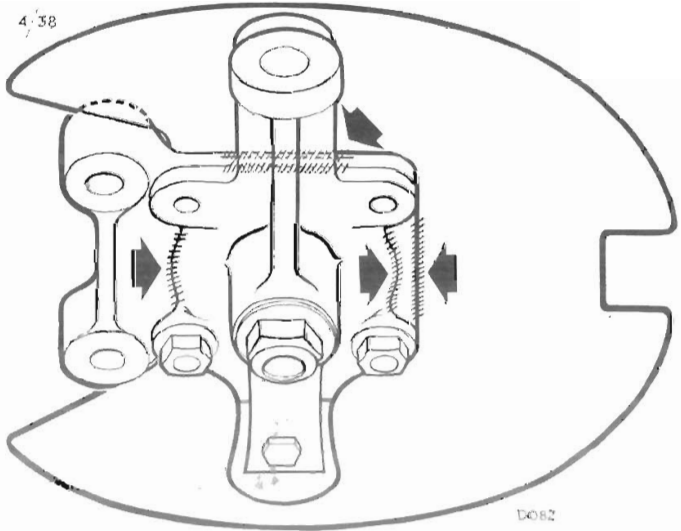

Fig. 21. Positions of Expandite Seal-a-Strip between disc brake caliper bracket and vertical link
8. Assemble the ball joint tapered shank to the vertical link (18) and fit the nyloc nut (22) and washer (21).
9. Assemble the steering arm (28) and brake backing plate (47) to the vertical link (18). On disc brake models, assemble the dust shield and caliper bracket as shown on Fig. 21, sealing the dust shield to the vertical link and caliper bracket with Expandite Seal-a-Strip (105 S) Part No. 554420.